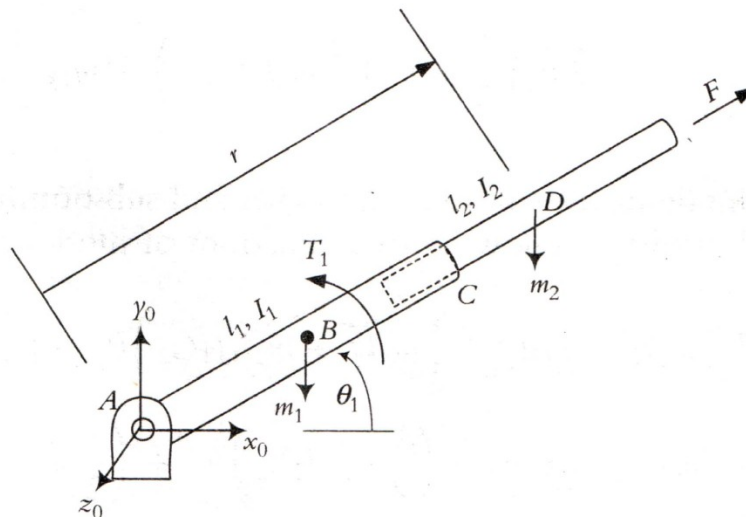

Fig.2: A 2-DOF planar manipulator (Figure for Q.8)
Q.8: For the 2-DOF planar manipulator shown in Fig. 2, determine the joint displacements for known position and orientation of the end of the arm point using inverse kinematics analysis.